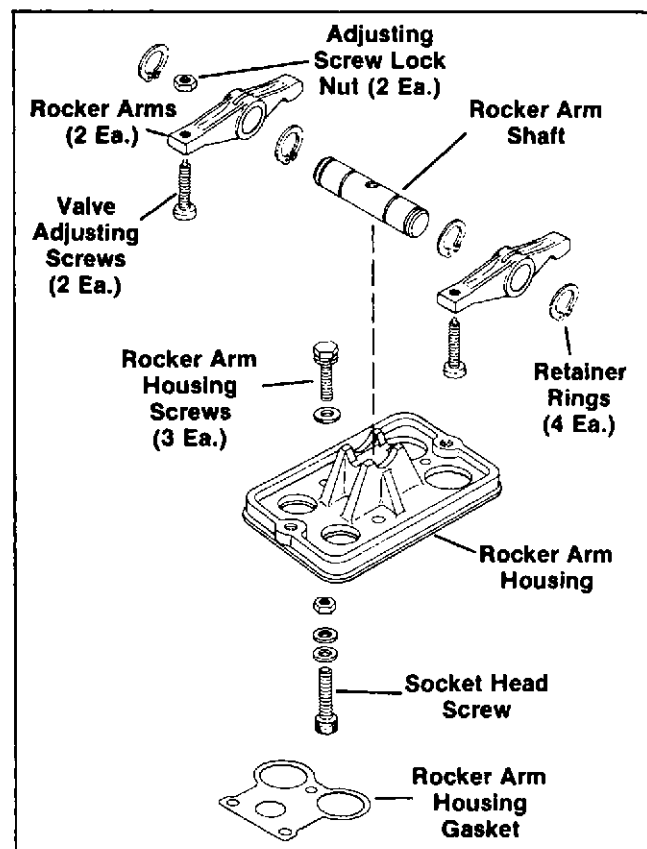

Figure 8-15. Rocker Arm Assembly
2. Screw valve adjusting screws into ends of rocker arms and secure with locknuts (see Figure 8-15).
the smaller of the four large holes in the housing. Fasten the shaft to the housing with washers and socket head screw. Torque socket head screw to 180 in. lbs. (see Figure 8-15).
4. Place rocker arm housing gasket over valve springs on cylinder head (always use new gasket when housing is serviced) and secure rocker arm housing to cylinder head with capscrews (see Figure 8-15).